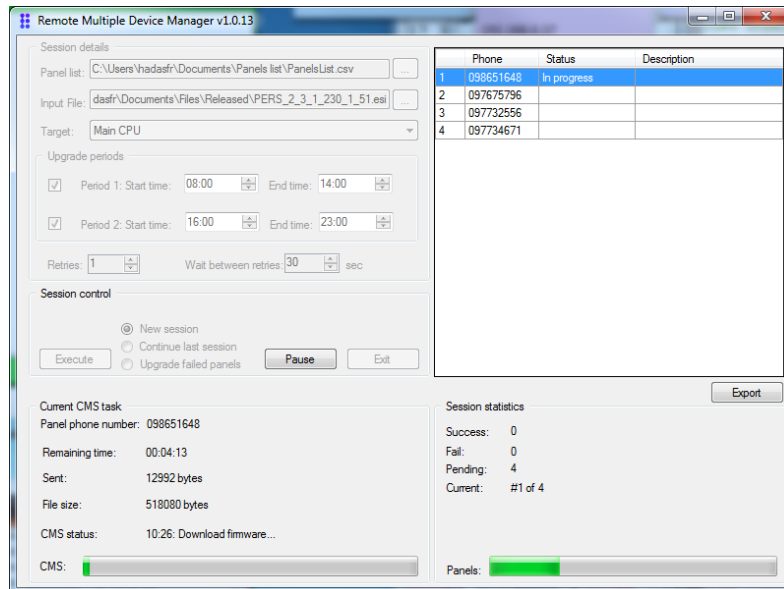

Figure 114: RMDM Upgrade Processing
- Select the **Panel List** file (.csv). The path and name of the selected file appear in the **Panel List** field. The **Panel List** file details appear in the box to the right of the **Panel List** field, as in Figure 114 on page 123.
The contents of the **Panel List** file are displayed in the box to the right of the **Panel List** field, as illustrated in Figure 114 on page 123. The utility updates the status of the upgrade of each CP in the **Panel List** file.